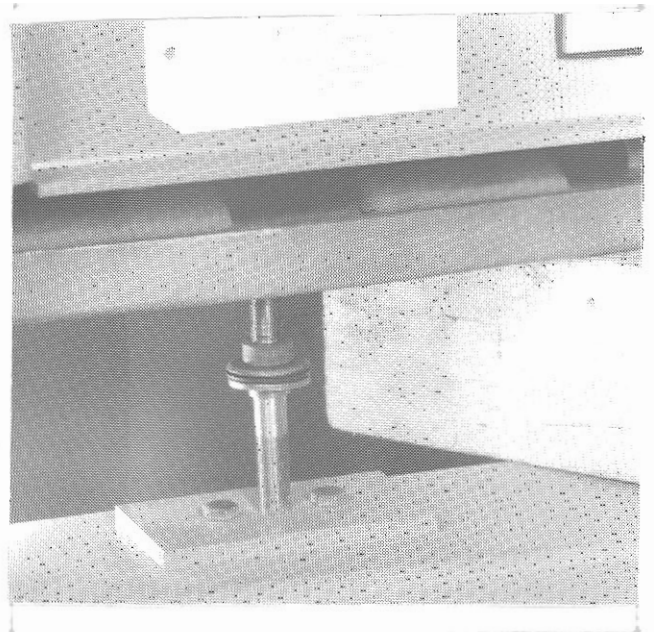

Figure 2.9 - Motor Plate Blocked
4. Raise motor plate approximately 2 inches at machine front and block in position, Figure 2.9.